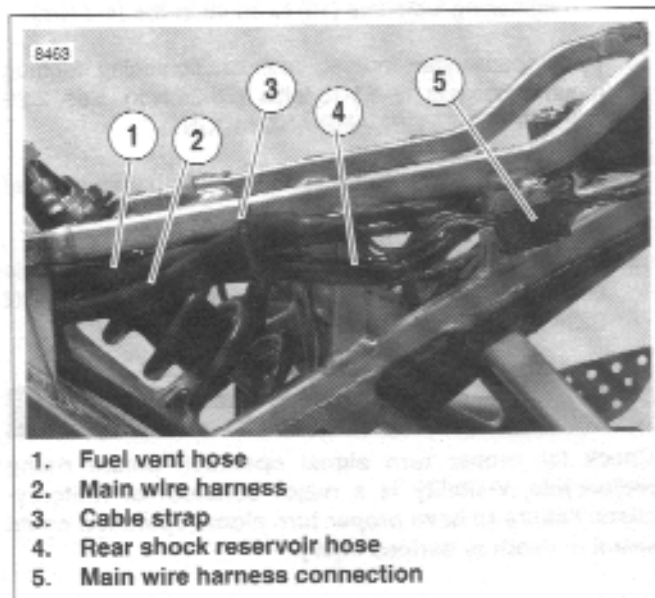
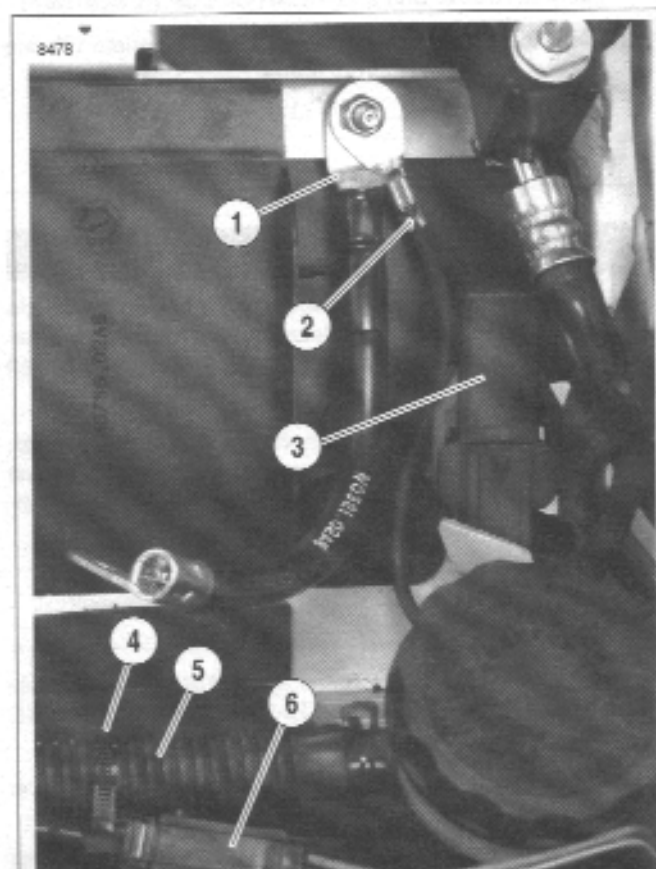
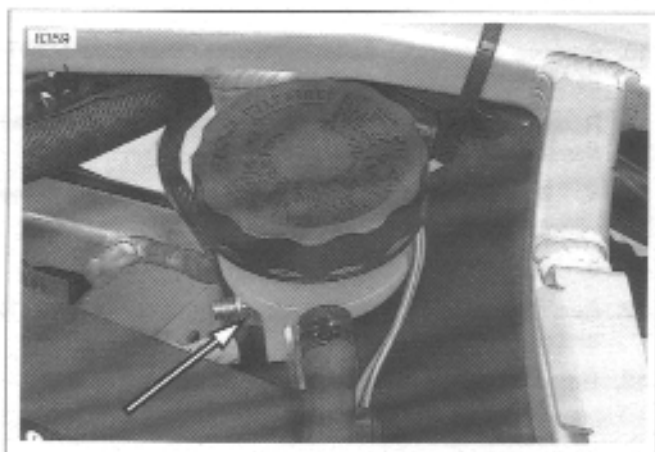

Figure 2-109. Left Side Tail Frame Hose and Wire Routing
Figure 2-110. Inside Tail Frame Hose and Wire Routing
Figure 2-111. Remote Reservoir Clamp Nut
- a. Remove body work fasteners (2).
- b. Disconnect passenger lock cable (6) by removing cable from seat lock plate (4) and ferrule from key-lock (3).
- c. Lift upper tail body work (1) off tail frame (8).
4. Remove passenger seat latch (14) from rear of tail frame.
5. See Figure 2-109. Disconnect rear power harness connection (5).
11. Remove lower body work (9) and trunk (11) from tail frame (8).
- a. Remove lower body work (9) underneath tail frame by removing fasteners (10).
- b. Remove trunk (11).
12. See Figure 2-110. Disconnect main battery ground (1) and ground to wire harness (2).
13. Remove main fuse case (3) from tail frame.
14. See Figure 2-110. Cut cable strap (4) holding rear brake light wire (5) and rear brake reservoir hose (6).
15. Disconnect rear brake light connection (5).
16. See Figure 2-109. Cut cable strap (3) from tail frame holding vent hose (1), main wire harness (2) and shock reservoir hose (4).
17. See Figure 2-111. Remove rear brake reservoir clamp nut.
1. Install tail frame (8) to frame and tighten tail frame fasteners (7) to 21-23 ft-lbs (28-31 Nm) using LOCTITE 272.
3. See Figure 2-110. Feed rear brake light connector (5) into tail frame and connect.
4. Install main fuse case (3) onto tail frame.
5. Install main battery ground (1) and ground to wire harness (2) to tail frame. Tightening fastener to 72-96 in-lbs (8-11 Nm).
6. See Figure 2-109. Feed the rear shock reservoir (4) through second tail frame support.
9. See Figure 2-109. Feed fuel vent hose (1) through tail section, keeping the hose on top of rear shock reservoir hose. See D.1 HOSE AND WIRE ROUTING for hose and wire routing.
10. Install cable strap (3) holding shock reservoir hose, wire harness and fuel vent hose to tail frame.
11. See Figure 2-111. Feed rear brake reservoir hose underneath tail frame and install rear brake reservoir tightening fastener to 48-72 in-lbs (5.4-8.1 Nm).
12. See Figure 2-110. Install cable strap holding brake light switch and rear reservoir hose.
- a. Install trunk (11).
- b. Install lower body work (9) underneath tail frame by tightening fasteners (10) to 36-48 in-lbs (4-5 Nm).
15. See Figure 2-109. Connect rear power harness to tail light harness (5).